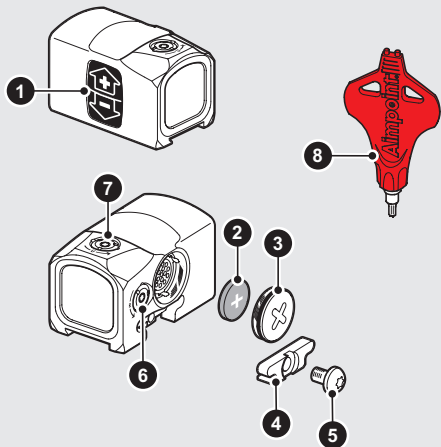

Fig. 1 Overview
- a Unscrew and remove the battery cap (3) using a flat head screwdriver or similar.
- b Insert battery (2) with the positive end (+) toward the battery cap (3) and the negative end toward the sight as shown in Fig. 1.
To install the sight to an interface compatible with the integrated mount shown in Fig. 1, follow the described procedure: